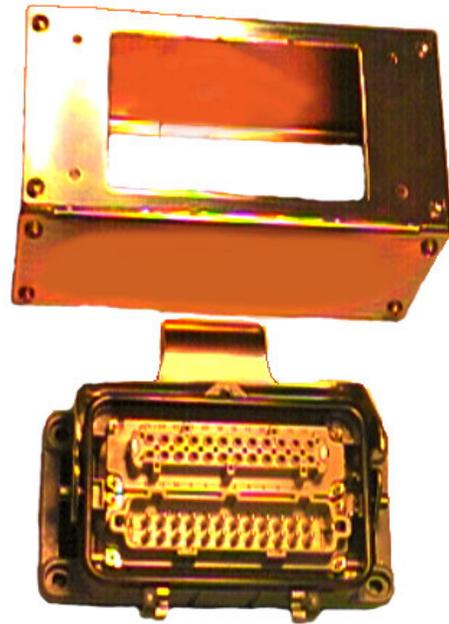

Figure 8 - Terminal Mounting Box (top), and Mold Power / Thermocouple Connector (bottom)
- ◆ Mold power / thermocouple connector and panel mount base, D-M-E #TPC-0001, (see figure 8).
- ◆ Terminal mounting box, D-M-E #PTC-0012, (see figure 8).
Below is the required mounting pattern for a terminal mounting box D-M-E #PTC-0012 (see figure 8).